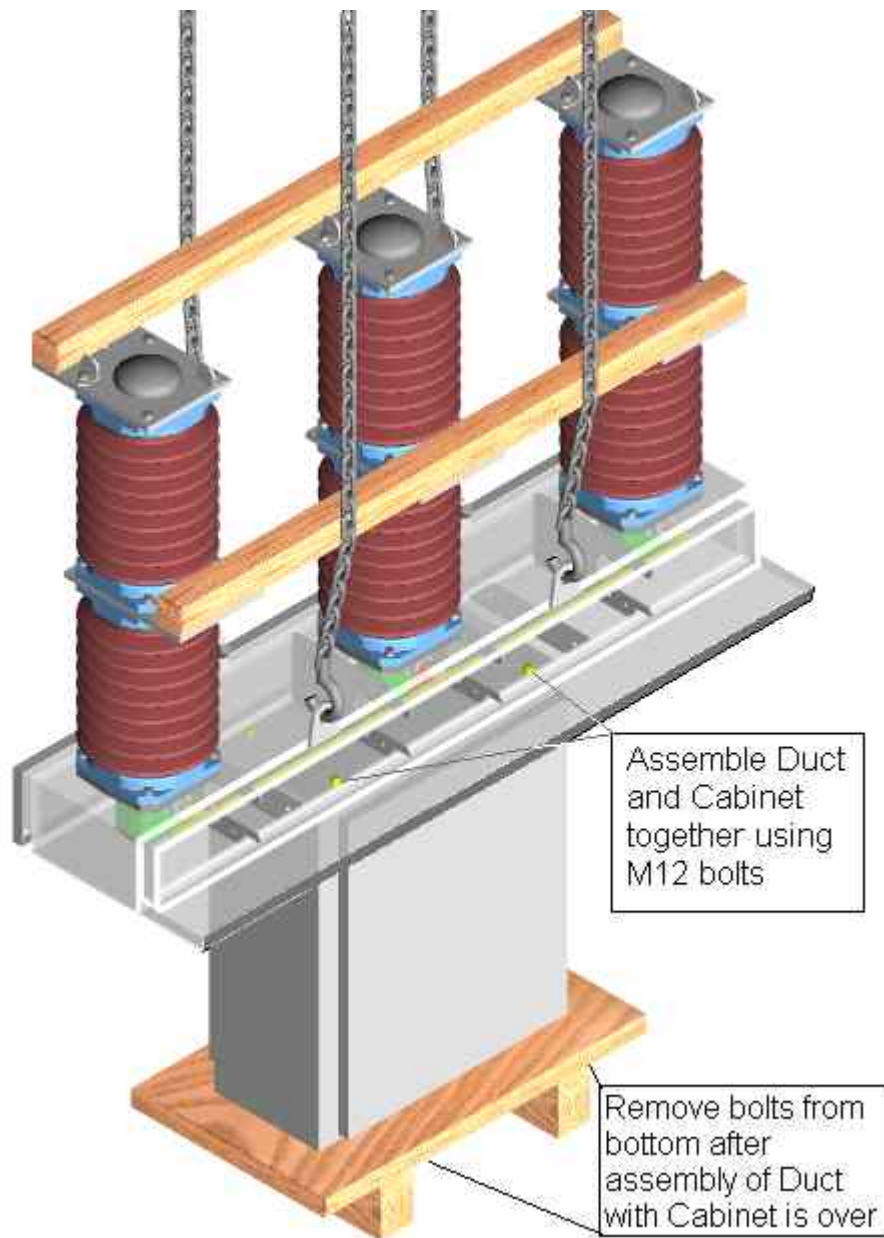

Fig. 18 Assembly of Poles-with-Duct & Cabinet
- Now remove the bolts from the pallet as shown in Fig.18 [Bolts can be removed without opening the Cabinet]